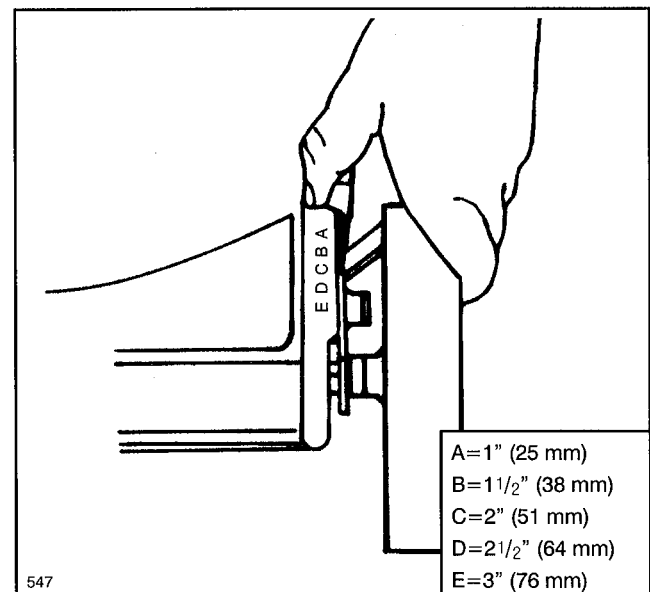

Figure 9
Five letters cast into the housing represent the height-of-cut settings (Fig. 9).
2. For easier adjustment, lift housing up so wheel is off ground. **Do not put fingers under housing when lifting.** Squeeze adjusting lever toward wheel and move to desired setting (Fig. 9). Ensure pin on adjusting lever engages notch in housing. Adjust all wheels to the same setting.